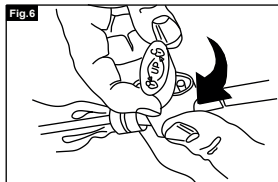

Fig. 6
5. Lock the control valve by lifting and turning it 180 degrees (Fig. 6).